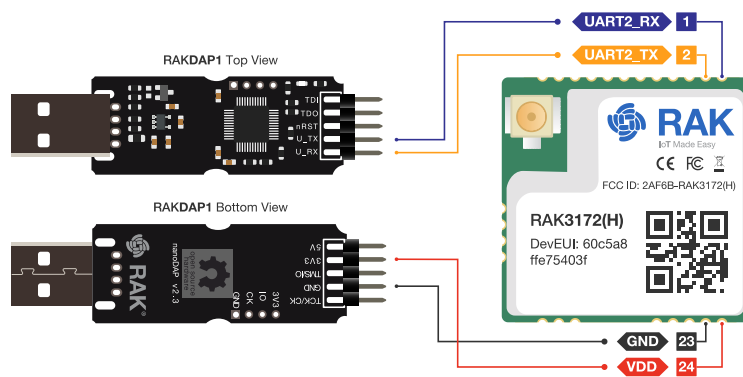

Figure 35: RAK3172 Module Connection
1. Connect the RAK3172 to the serial port of a general-purpose computer (USB port) using a USB to UART TTL adapter like RAKDAP1, as shown in **Figure 35**.